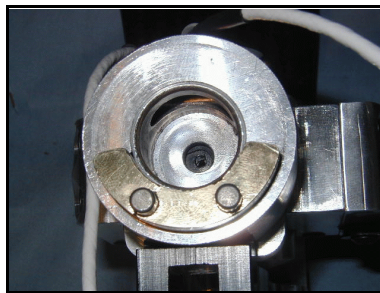

Figure 3.22 - Locked
21. As an option, the Z-rotation axis can be locked for calibration purposes. To lock the axis, remove the rubber z-rotation stops and substitute Wedge #2 (T2LLM112) for Wedge #1, as shown in **Figure 3.22**.